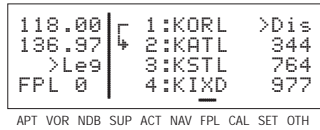
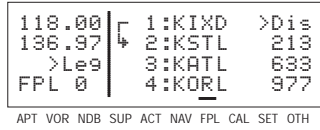

Figure 4-106
Figure 4-107
- Press **ENT** to activate the flight plan in the order shown (figure 4-106). To activate the flight plan in inverse order (first waypoint becomes last and last waypoint becomes first), rotate the outer knob one step clockwise to position the cursor over **Use? Inverted?** before pressing **ENT** (figure 4-107).